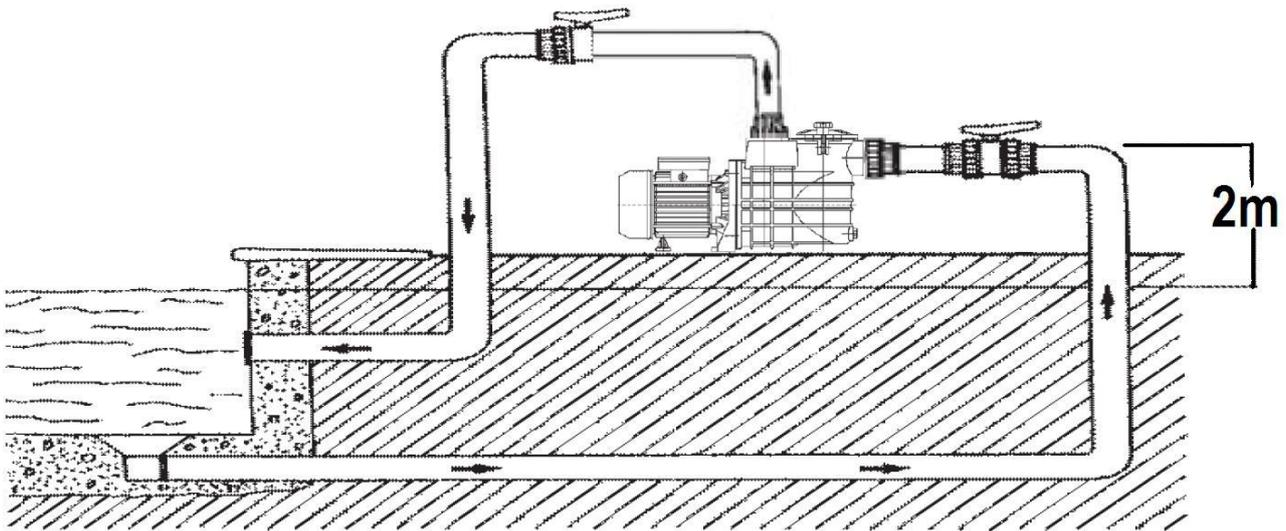

Fig.3
- Measured from suction inlet connection (Fig.3), the pump can be mounted up to 5 meters below pool water level and up to 2 meters above pool water level,